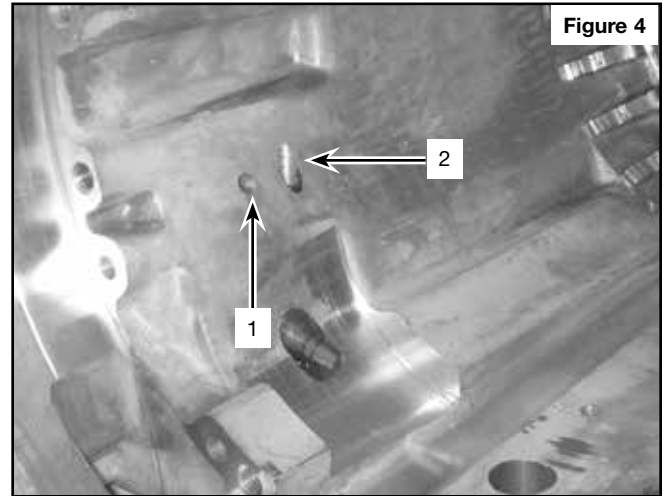

Figure 4
- a. When air checking during overhaul (and pump removed), check for leaks of 3rd clutch oil at the OE 3rd accumulator checkball capsule (No. 2 in **Figure 4**).
- b. No. 1 in (**Figure 4**) is orifice to spray lube oil onto 2-4 band. Some leakage here is normal.